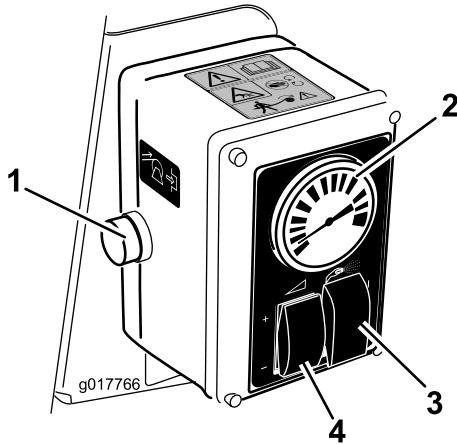

Figure 21
5. Set the spray selection switch to the hand spray position (Figure 21).
6. Adjust the rate control switch and the throttle to increase or decrease the pressure, as read on the pressure gauge, to the desired setting (Figure 21).